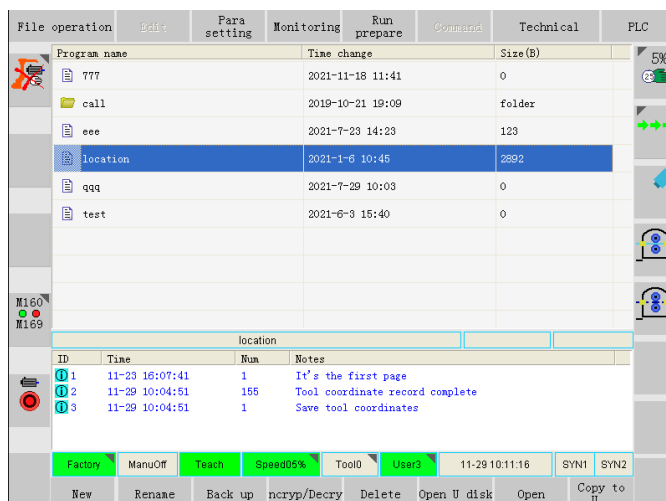

Fig.7.1
3. Enter the program list interface. (Figure 7.1)
4. Click 【New】 in the submenu (Fig.7.1).